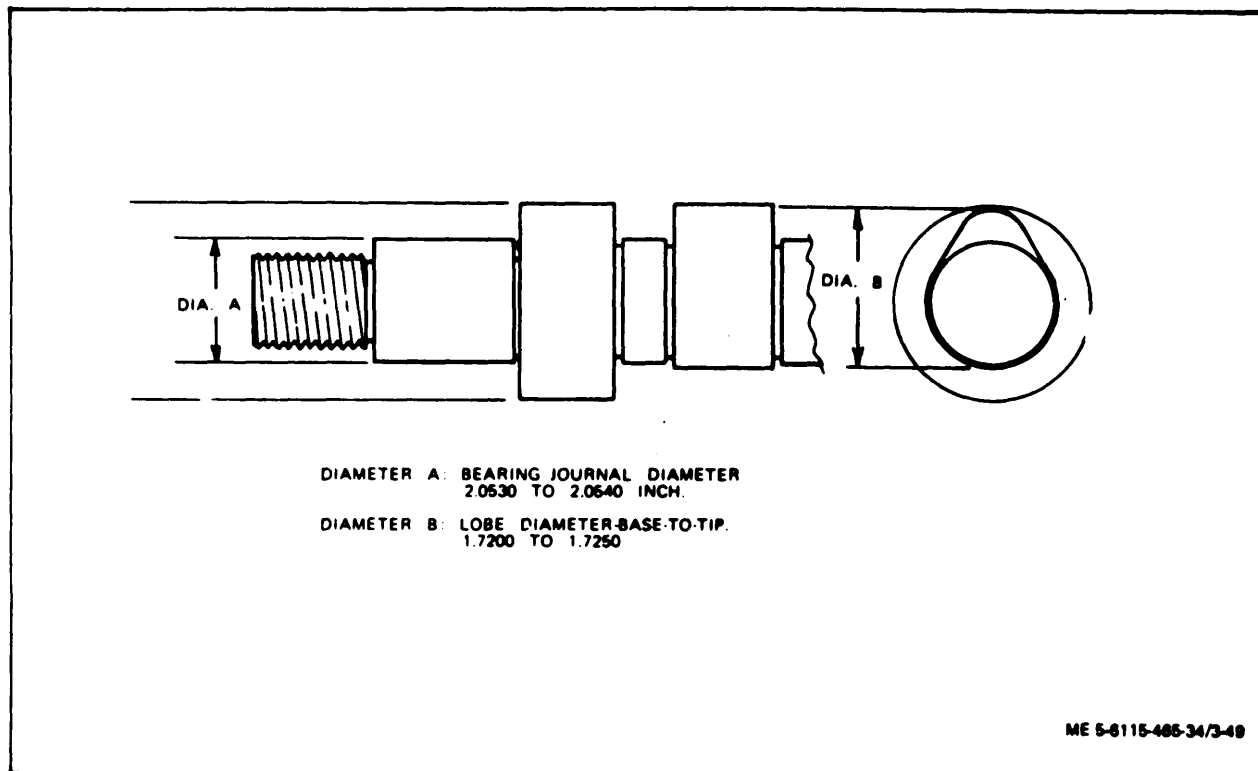

Figure 3-49. Dimensional Inspection of Camshaft
(1) Clean all parts in dry cleaning solvent (Federal Specification P-D-680) and dry thoroughly with filtered compressed air.
(2) Visually inspect drive gear for cracks and chipped, broken, or worn teeth.
(3) Check thrust plate *for* cracks, breaks, and excessive wear.
(4) Using a micrometer, dimensionally inspect camshaft in accordance with figure 3-49.
(5) Inspect camshaft lobes and bearing journals for wear, scoring, and scratching. Polish minor nicks, scores, and scratches with crocus cloth. Clean to remove abrasive residue.
(6) Check camshaft bearing runout as follows: